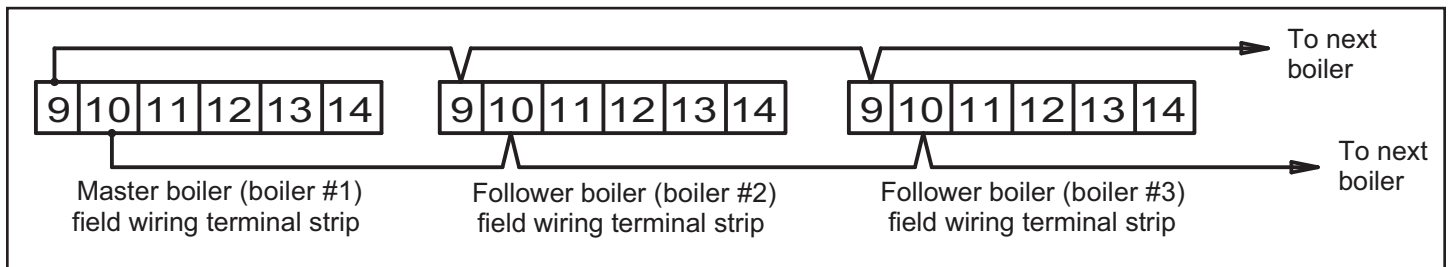

Figure 13. Jaguar link connections.
- 10.1.7 Jaguar link connections: Connect terminal #9 and 10 of Master boiler to terminal #9 and 10 of all individual Follower boilers. See figure 13.